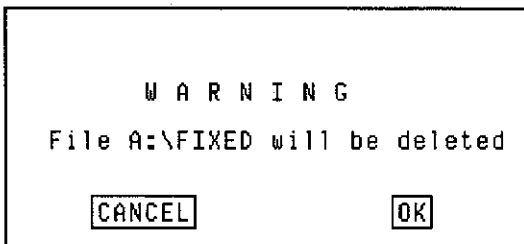

Figure 3-20. Delete Window
2. Click on <Delete> to display the Delete window, Figure 3-20.